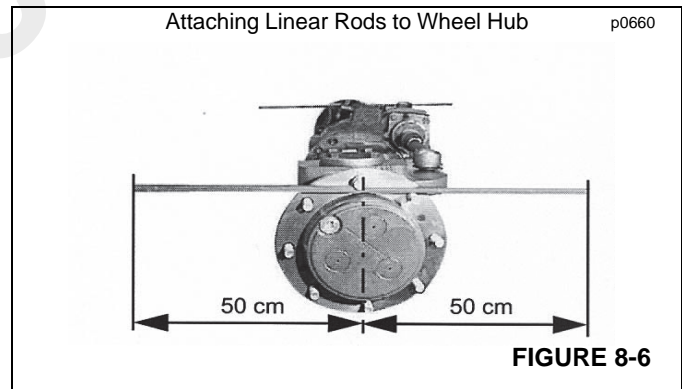

FIGURE 8-6
1. Place two equal (one-meter) long linear bars on the wheel sides of the hubs and lock them in place with two nuts on the wheel stud bolt (Figure 8-6).